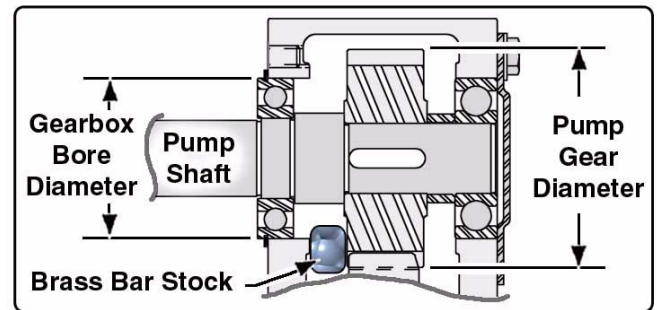

Figure 6c-10: Gear vs. Bore Diameter
3. **If the gear fits through the gearbox bore**, use a brass drift or similar object and tap out the pump shaft assembly, including the rear bearing. (See Figure 6c-9: "Pump Shaft Assembly" on page 100.)
If the gear is larger than the gearbox bore (does not fit through the bore), place brass bar stock, or similar non-marking type object, between the pump gear and the front face of the gearbox housing to support the shaft and act as a wedge. (See Figure 6c-10: "Gear vs. Bore Diameter.")
(See Figure 6c-9: "Pump Shaft Assembly" on page 100.)